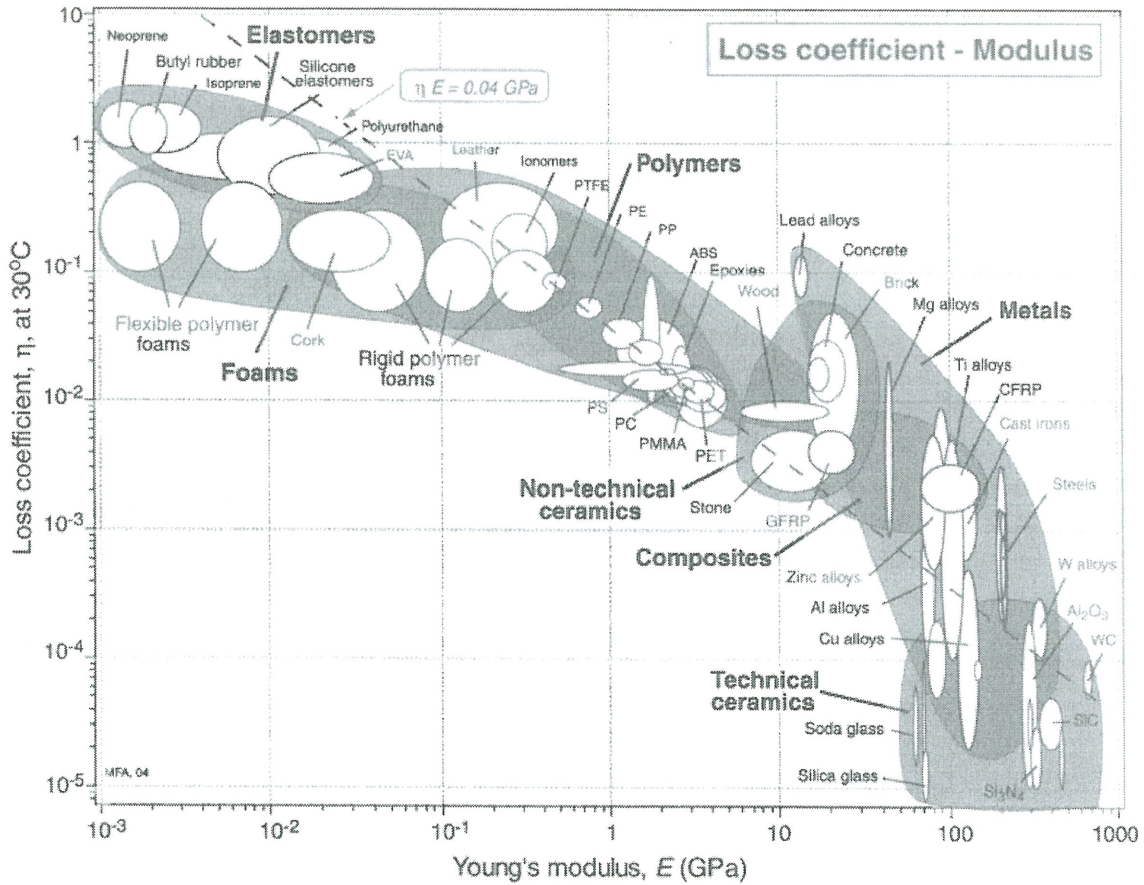

Figure Q1(c)
- Q1** (a) Define the 'Material Index' and give THREE (3) factors that involve in design of structural elements. (4 marks)
- (c) Use the selection chart in **Figure Q1(c)**, to determine the subset of materials with a Young's modulus (E) less than 1 GPa and a selection index $M = \frac{\tau^2}{E}$ greater than $M = 1 \times 10^{-4} \left[\frac{1}{GPa} \right]$. Show your materials with a sketch on the selection chart in **Figure Q1(c)** clearly indicating the selection region. (12 marks)
- (d) Based on the materials that have been determined in the selection chart in **Figure Q1(c)**, what are the general properties of the materials selected. (5 marks)